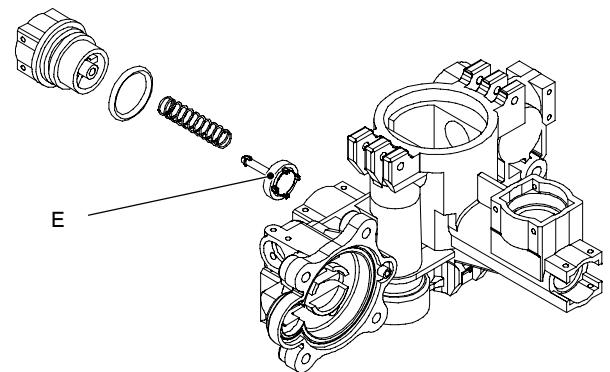

Fig. 76
- 5 Remove the by-pass valve *E* (Fig. 76).
- 6 Reassemble the by-pass valve as illustrated in Fig. 76 reversing the order of removal.